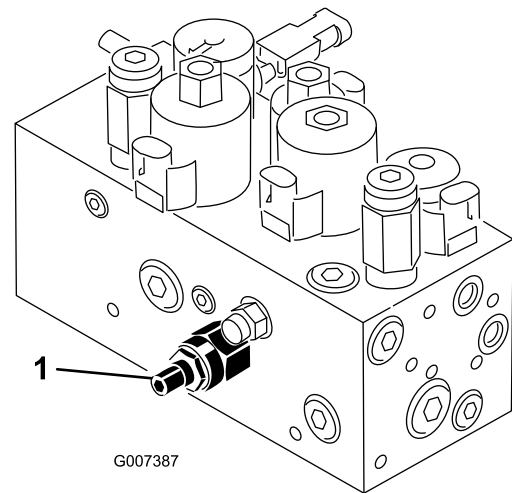

Figure 48
The cutting unit lift/drop circuit is equipped with a flow control valve (Figure 48). This valve is preset at the factory but an adjustment may be required to compensate for differences in hydraulic oil temperatures, mowing speeds, attachments, etc. If an adjustment is required, proceed as follows:
1. Raise the seat and locate the flow control valve for the center pull frame (Figure 48) which is located on the side of the hydraulic manifold.